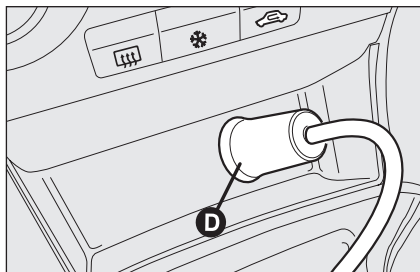
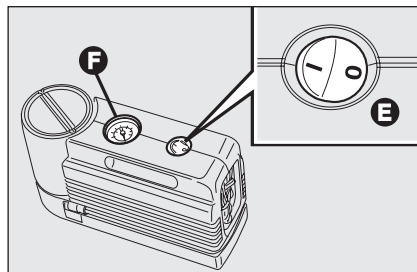

fig. 14
fig. 15
□ make sure the compressor switch **E-fig. 15** is set to **0** (off), start the engine and fit plug **D-fig. 14** into the cigar lighter outlet and then turn on the compressor by setting switch **E-fig. 15** to **I** (on). Inflate the tyre to the pressure specified in paragraph “Cold tyre inflation pressure” in section “Technical specifications”. Check tyre pressure on gauge **F-fig. 15** with compressor off to obtain precise reading;